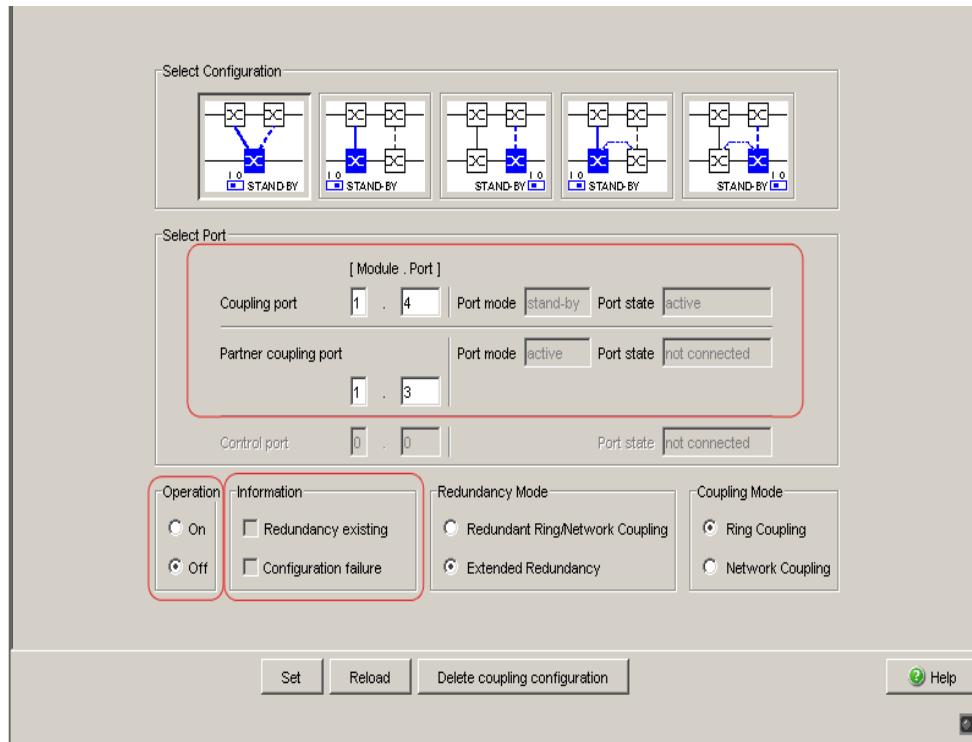

Figure 25: One-Switch coupling: Selecting the port and enabling/disabling operation
- Select the partner coupling port (see fig. 25).
- Select the coupling port (see fig. 25).
- Activate the function in the “Operation” frame (see fig. 25)